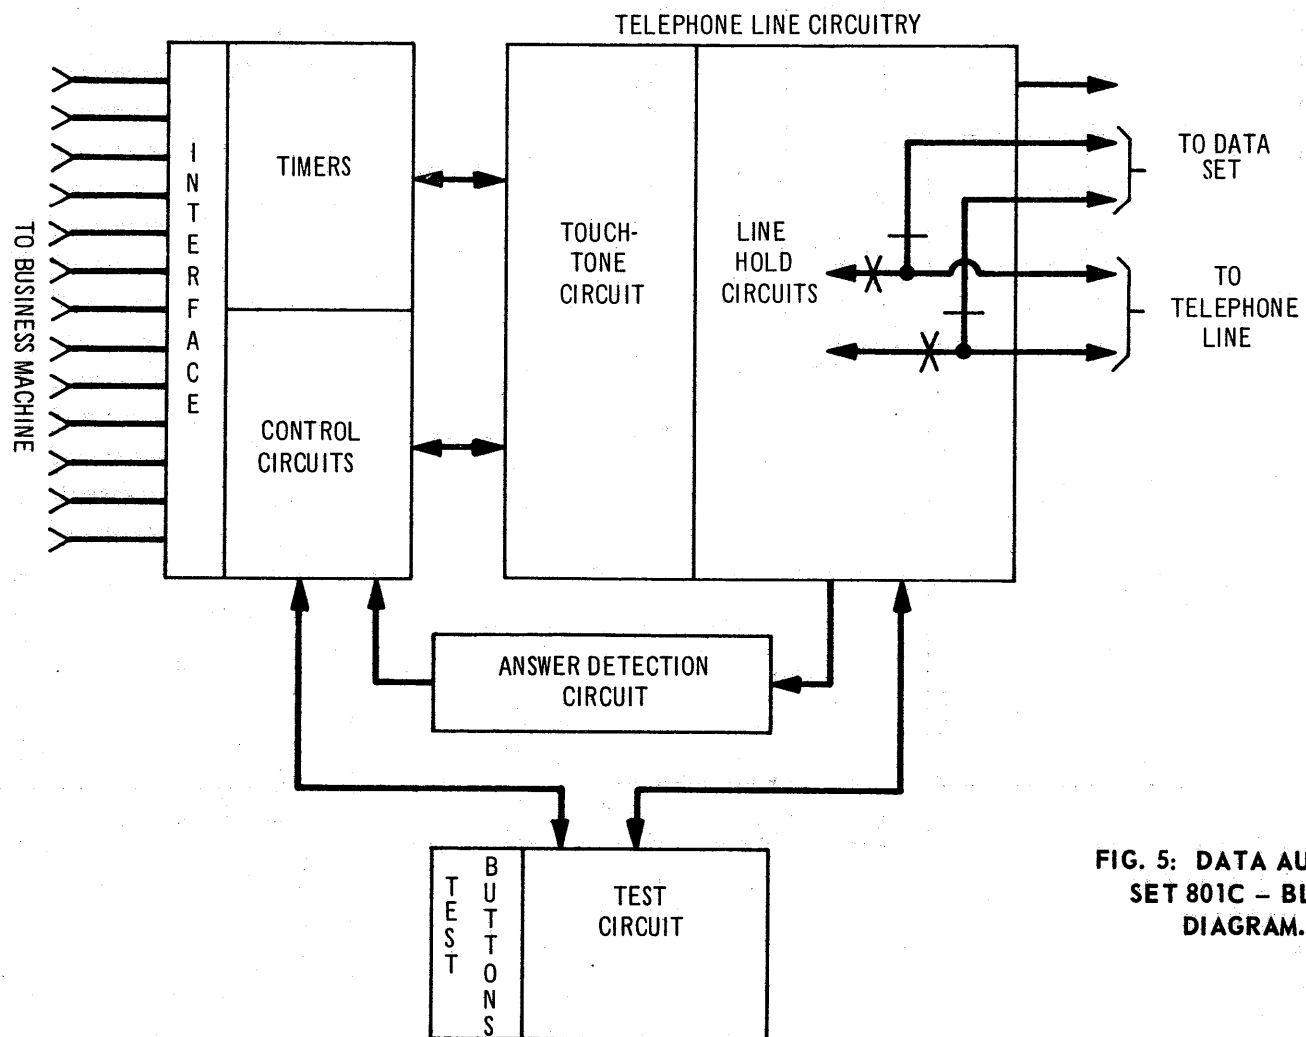

FIG. 5: DATA AUXILIARY SET 801C - BLOCK DIAGRAM.
5.10 Originating a Call Automatically (See Figure 5)